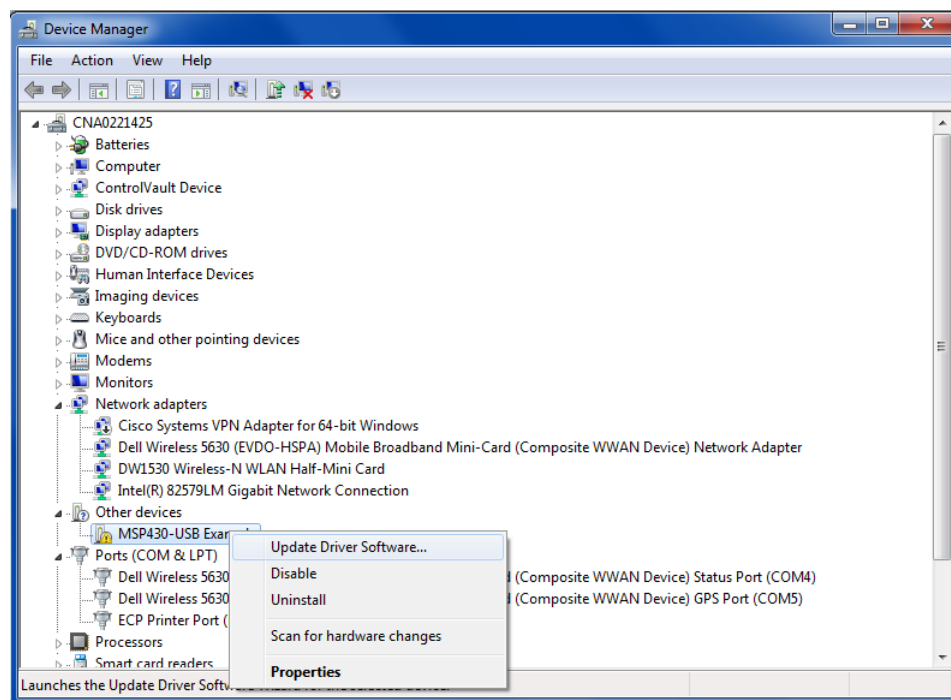

Figure 8. USB Driver Installation - Screen 1 (Windows 7 OS only)
2. Win XP OS starts up the *New Hardware Wizard* to enable the user to install the USB driver for the new hardware. The Windows 7 OS attempts to find the driver for the *new hardware found* automatically and if the driver is not found, there is no pop-up message to indicate that the driver installation failed. In the Windows 7 OS, click on *Device Manager*, right click on *MSP430-USB* example under *Other devices* and click on *Update Driver Software* as shown in Figure 8. This step is not required for the Windows XP OS.